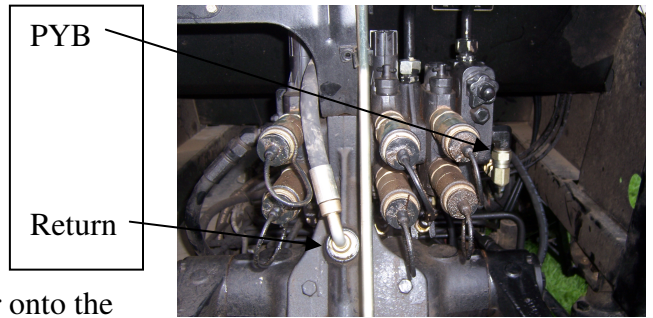
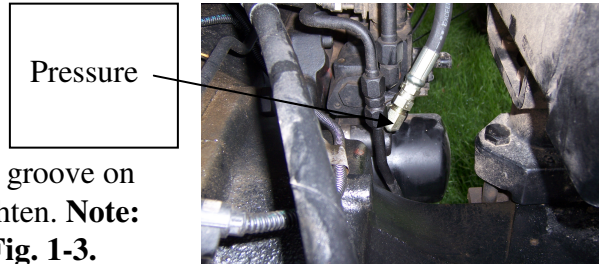

Fig 1-4
Fig 1-5
2. First locate the remotes kit to verify tractor. First remove the two plugs from the valve and replace with power beyond plugs (Part #21). **See in Fig. 1-4 and Fig 1-5.**
10. Route the 60” hose (Part #17) the return, underneath the tractor cab and attach to the rear proper port with adapter (Part #12) on the back of the tractor. See instruction sheet for proper connections. **See in Fig. 1-4.**
11. Disconnect the hose from the right side on the rear remotes to right hand side pump. Now install the two elbows (Part #14) and route the pressure 45” hose (Part # 16) from pump to valve. **See in Fig. 1-5.**
12. Now route the PBY 72” hose (Part #18) to the valve. **See in Fig. 1-4.**